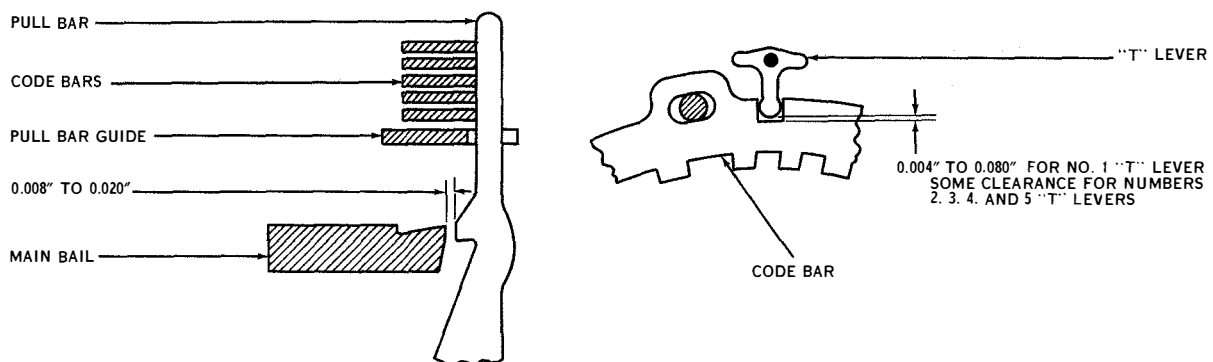

Figure 7-41. Pull Bar Guide
(30) PULL BAR GUIDE. (See figure 7-41.)—There should be 0.008- to 0.020-inch clearance between the unselected pull bars and the main bail when the play of the bail is taken up in a direction to make this clearance a minimum. To check, set up the BLANK combination and position the main bail opposite the